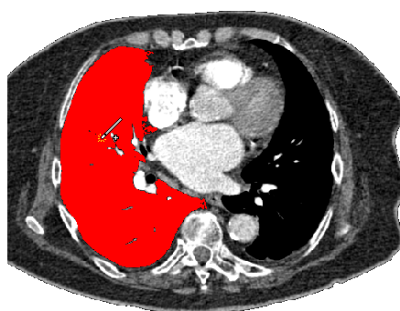

Figure 251 – Defining an area using the Magic wand drawing tool
7. Press and hold down the left mouse button to define the starting point and from there, drag the cursor to demarcate the area what you want to define. The further you drag the cursor away from the starting point, the wider the color range will be (see Figure 251).